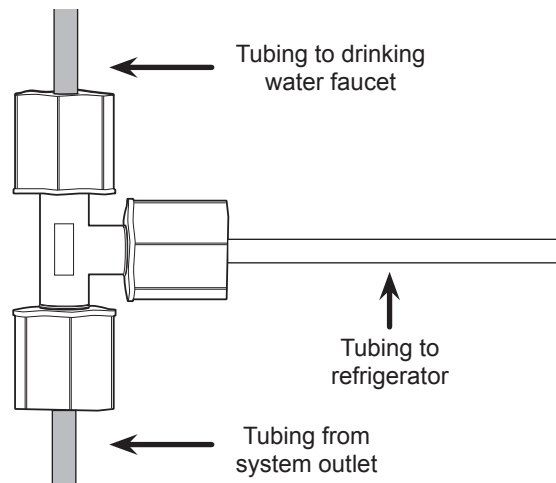

Figure 15
- Locate blue tubing leading to your drinking water faucet. Cut and insert the 3/8" x 3/8" x 3/8" (9.5 x 9.5 x 9.5 mm) compression or quick-connect tee into the blue tubing (Figure 15). Consult manufacturer's guidelines before installing the tee connection.